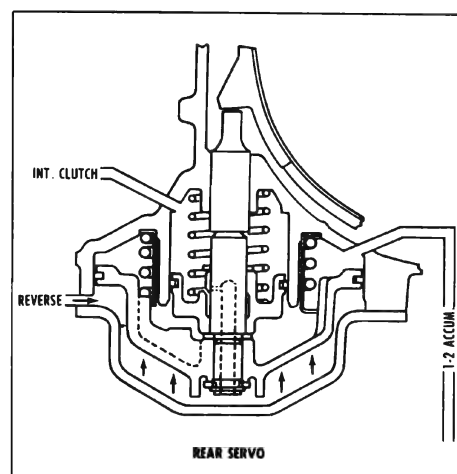

Figure 5-217
a. The large reverse band apply piston provides the band apply force to hold the rear band in reverse. See Figure 5-217.